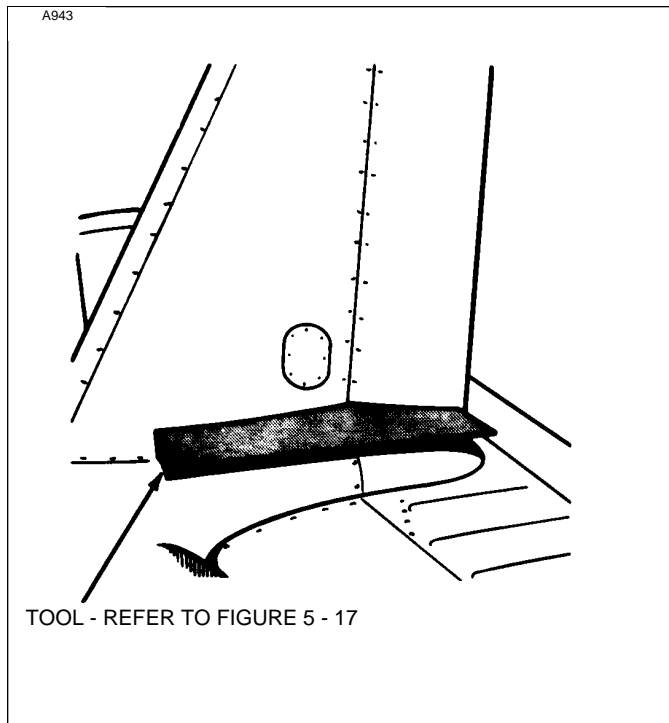

Figure 5-11. Rudder Rigging Tools
3. Clamp the rudder pedals, so they align in a lateral position as shown in Figure 5-11.